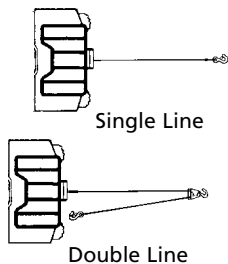

Figure 2
** All loads shown are for single-line operation. Double-line operation with optional pulley block (see Figure 2) approximately doubles capacity of winch.
1. Maximum working load capacity is on the wire rope layer closest to the drum. **DO NOT OVERLOAD. DO NOT ATTEMPT PROLONGED PULLS AT HEAVY LOADS.** Overloads can damage the winch and/or the wire rope and create unsafe operating conditions. **FOR LOADS OVER 1,000 POUNDS (454 kg), WE RECOMMEND THE USE OF THE OPTIONAL PULLEY BLOCK TO DOUBLE LINE THE WIRE ROPE** (Figure 2). This reduces the load on the winch and the strain on the wire rope by approximately 50%. Attach hook to load bearing part. **The vehicle engine should be running during winch operation.** If considerable winching is performed with the engine off, the battery may be too weak to restart the engine.